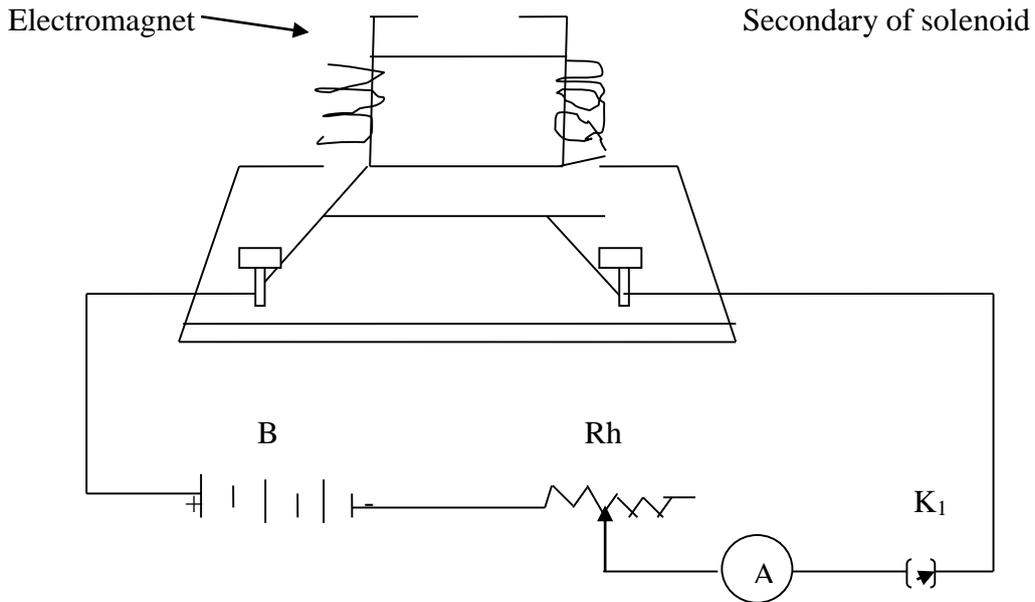

Figure 1
- (i) We set the galvanometer and lamp and scale arrangement such that the spot of light is free to move on both sides of zero of the scale. We make electrical connections as shown in figure 1.